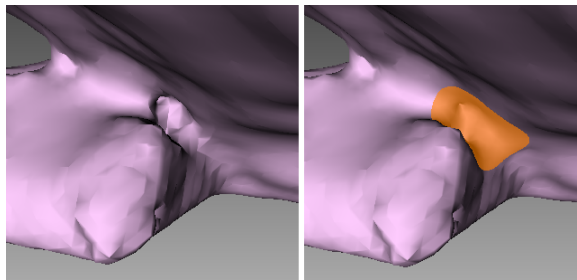

Figure 87: Before smoothing (left) and smoothing out a poorly captured area (right).
6. Hold **LMB** and paint the surface region in order to smooth it. The tool will smooth the affected areas (see Figure 87, right).